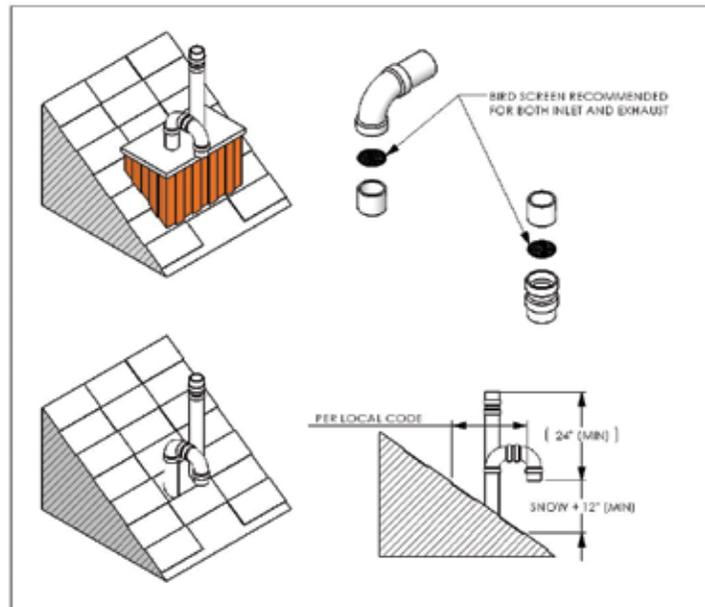

Figure 3: Rooftop vent terminal configurations
- If used, the intake air pipe is not typically drained, so it must be terminated with a down-turned elbow (see **Figure 3**). The intake pipe does not need to penetrate the roof at the same elevation as the exhaust (as shown); lower down roof is OK.
It is extremely important to maintain at least the minimum separation of exhaust vent termination from boiler intake air as illustrated in Figures 3, 4 and 5. Failure to do so can result in a dangerous situation where exhaust gasses are re-ingested with combustion air. Damage to the boiler can result from a failure to maintain these separations. Third party vent termination kits and concentric wall penetration kits that do not maintain these minimum separations shall **NOT** be used. Improper installation will void the warranty. Do not use proprietary *InnoFlue* or *PolyPro* PPs sidewall terminals without specific written approval from IBC.